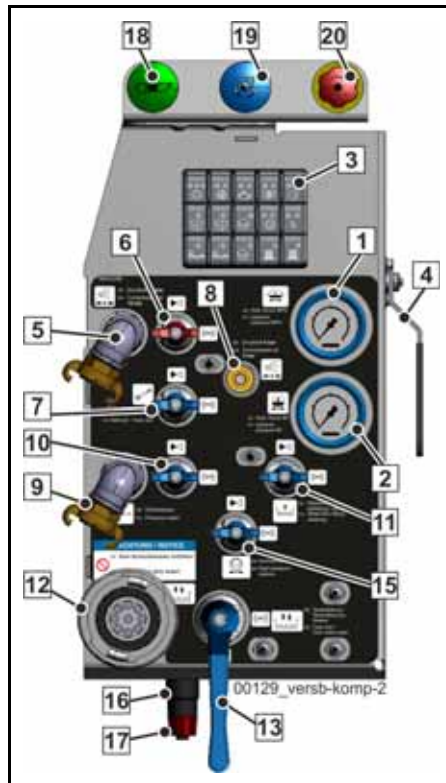

Fig. 290 Pressure gauge for concrete pump
The indicator on the concrete pump pressure gauge (2) on the rear of the machine (**Fig. 290**) must increase to the value set for the pressure cut-off.